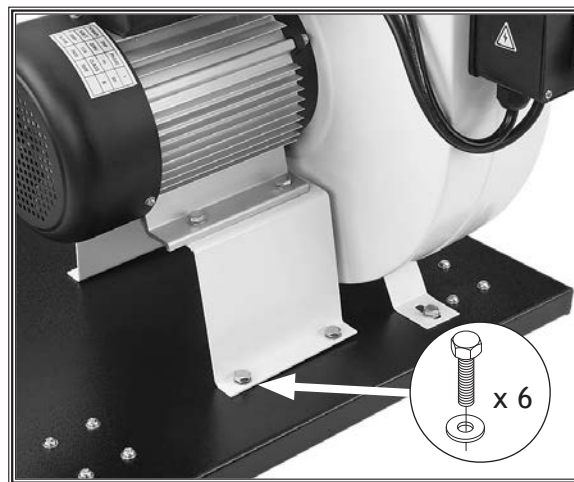

Figure 7. Impeller/motor assembly attached to base plate.
4. Attach impeller/motor assembly to base plate with (6) M8-1.25 x 16 hex bolts and (6) 8mm flat washers (see Figure 7).